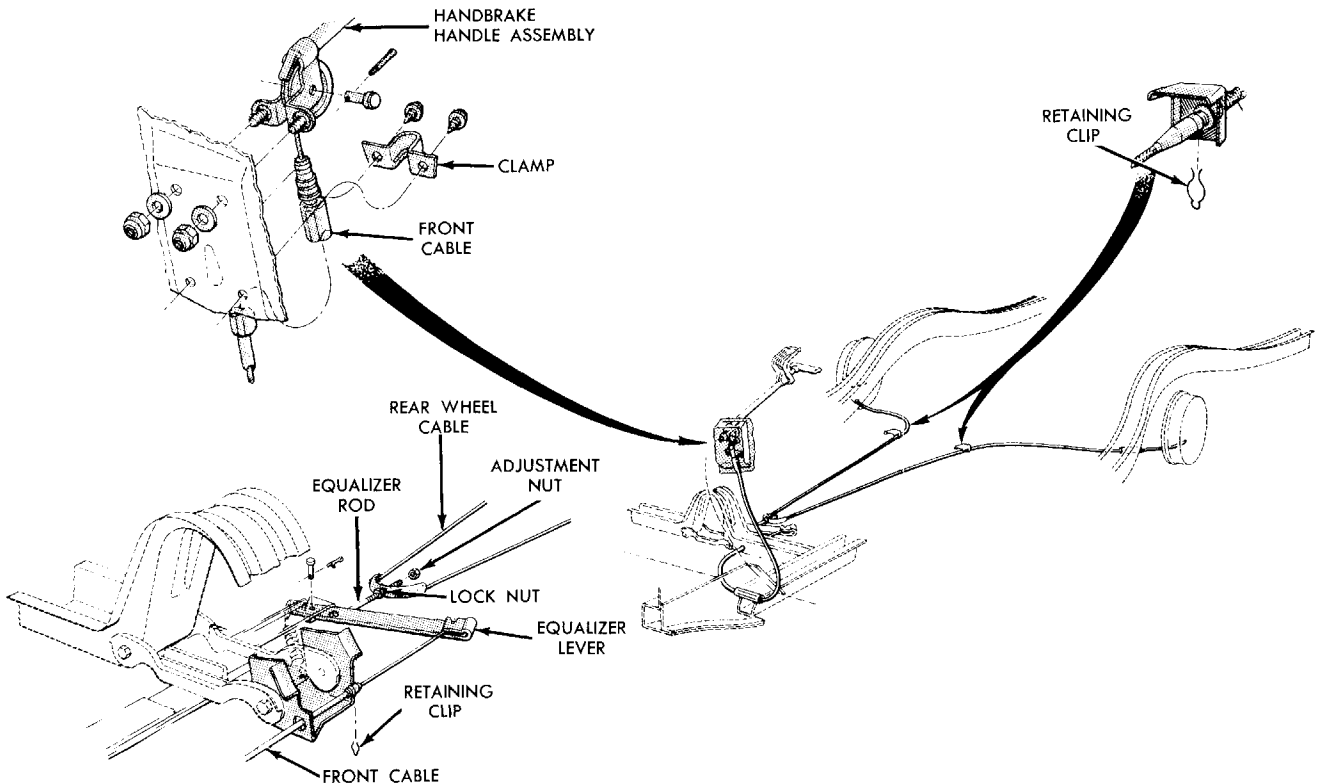

FIG. 1—Parking Brake Linkage
4. On a Falcon, Comet or Fairlane, turn the lock nut in front of the equalizer (Fig. 1) several turns forward.